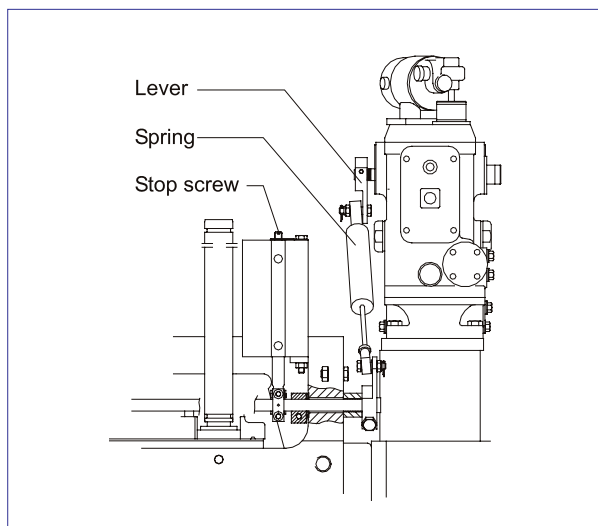

Fig 2 Adjustment of the stop screw
- 2) Turn the lever (fig 2) of the governor a few times to full load with an adjustable spanner (spring between governor and fuel rack full compressed). Check that the fuel index is 17 at the fuel pump.
- 7) Turn the lever (fig 2) of the governor to full load with an adjustable spanner. Adjust the stop screw (fig 2) to 110 % load (stationary 100%) according to the test bed, plus 1.5 index.